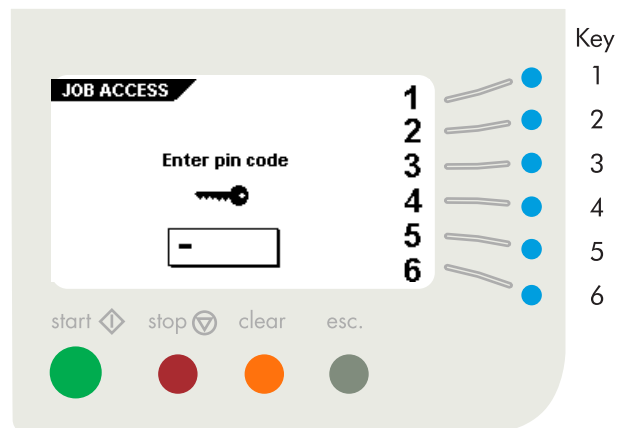

Fig. 29
After pressing key 4 in the "main menu (2)" (fig. 9 on page 6), the display shows the "job access" screen and asks for a pin code to enter (fig. 29).